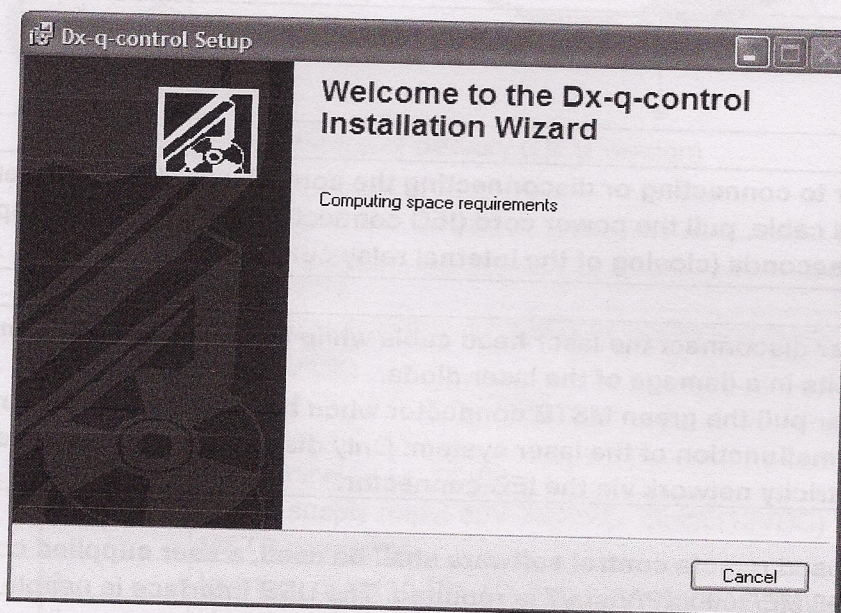

Figure 10: Software installation wizard
5. Insert the enclosed CD into the CD drive of the windows computer and follow the instructions of the installation wizard (see Figure 10). If the installation wizard does not start automatically, start the wizard manually by double-clicking the "SETUP.EXE" program on the CD folder.